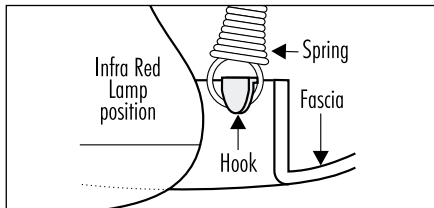

Fig. 25 – 11511, 11521 and 11532
1. Models 11511, 11521, and 11532 fit fascia into position and hook coil-spring onto fascia as per Fig. 25. Models 12511 and 12521 have a snap-on fascia, however the lamps and centre globe must be fitted in these models prior to the fascia. The legs of the lamp surround must rest freely on the ceiling. A clearance of approximately 3-5 mm should exist between the ceiling and outer rim of surround.